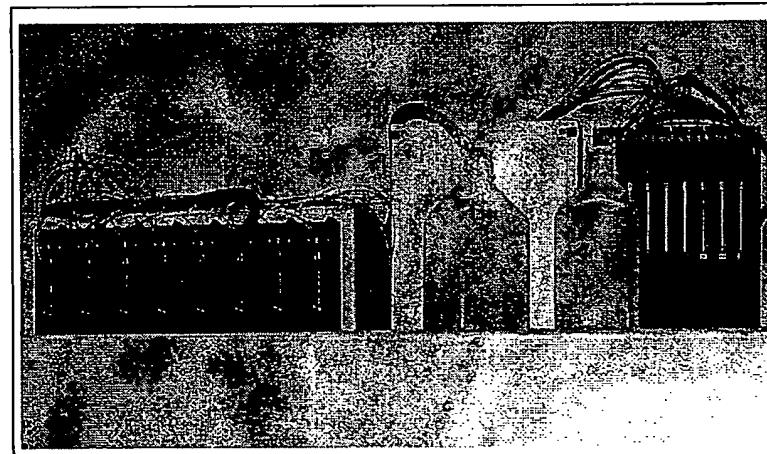
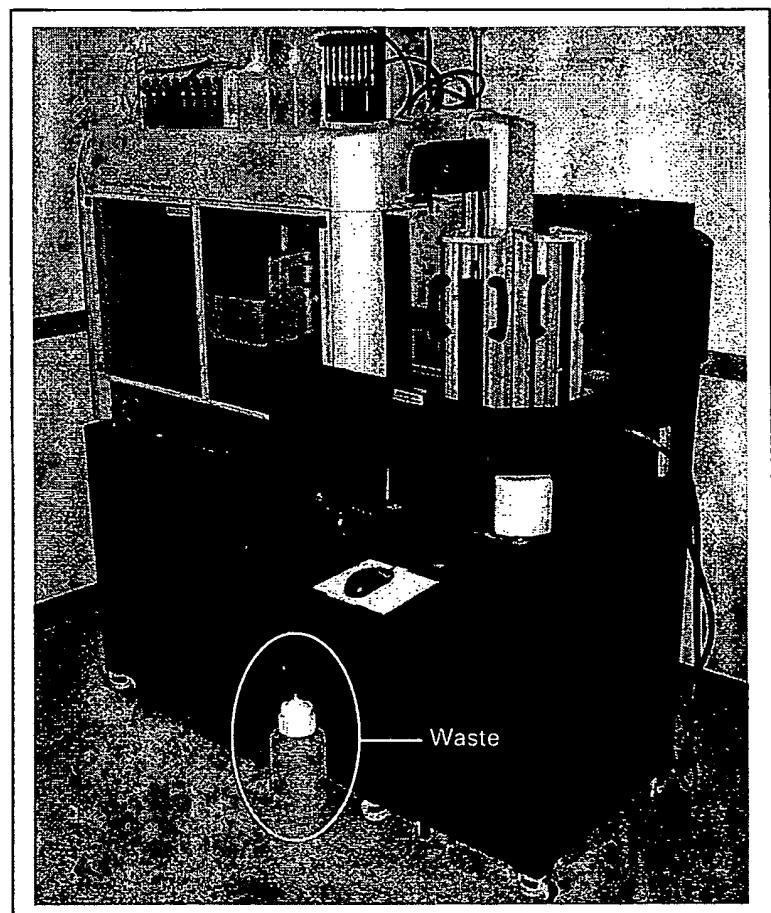

Figure 4.12
Figure 4.13
1. Ensure that the water supply connections and waste water drainage are properly installed. In addition, the bottles (illustrated in Figure 4.12) must be filled with Molecular Biology Grade Water and the liquid waste container (illustrated in Figure 4.13) must be empty.